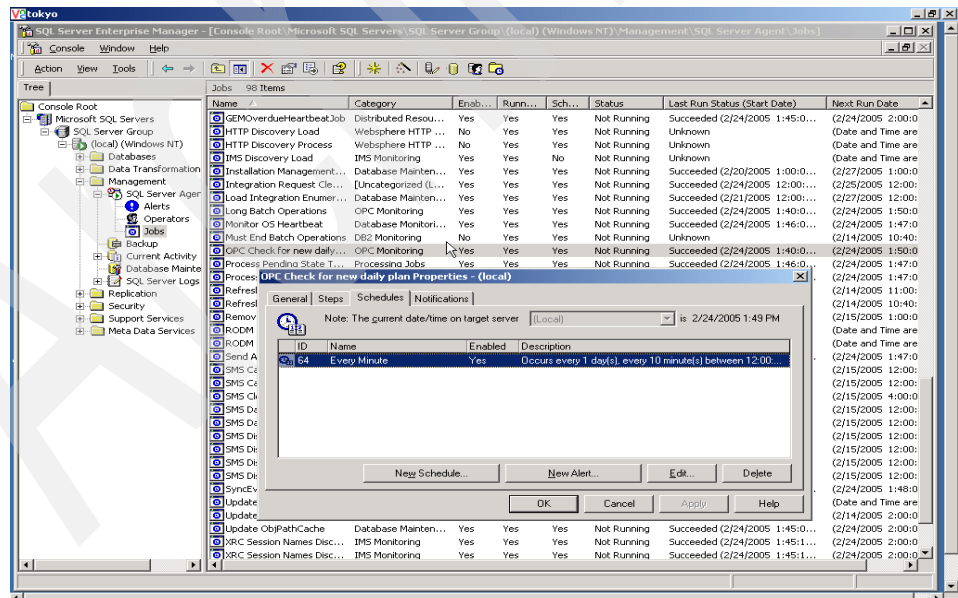

Figure 5-10 Scheduling the “OPC Check for new daily plan” job
4. Schedule the job once per minute, as shown in Figure 5-10.